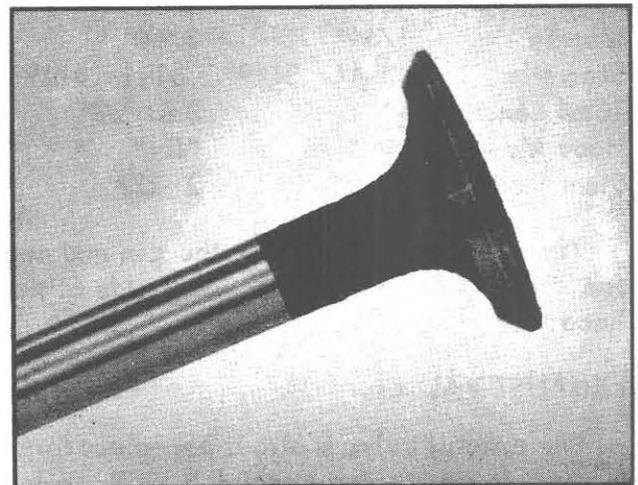

Fig. 17
1. Deep burns. Fig. 17. Valves which have deep burns should not be reused as grinding away enough metal to produce a good face will leave too small a margin. The metal behind deep burns is also very likely to have lost its original physical properties, making its future life very short.